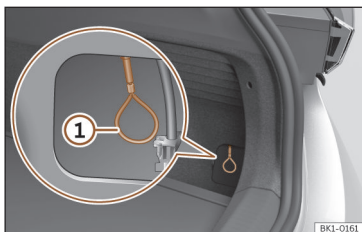

Fig. 57 Behind the cover: emergency unlock of the charging connector.
- Pull the emergency manual release loop >>> **Fig. 57** ①. The charging connector can be removed >>> ⚠.